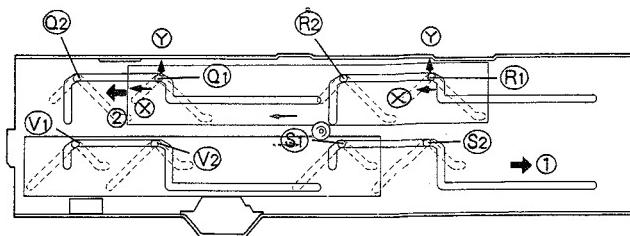

Fig. 10-9.
- In Fig. 10-9, there is parallel movement pressing against the grooves for movement from ⑮ to ⑯, ⑰ to ⑱, ⑲ to ⑳, and ⑳ to ⑳.